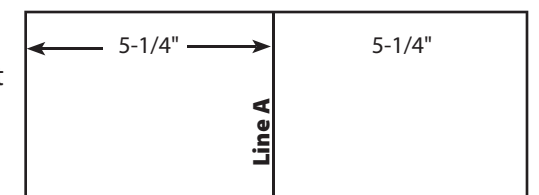

Figure 1
1. Using a No. 2 pencil, draw Line A down the center of a balsa sheet (Figure 1).